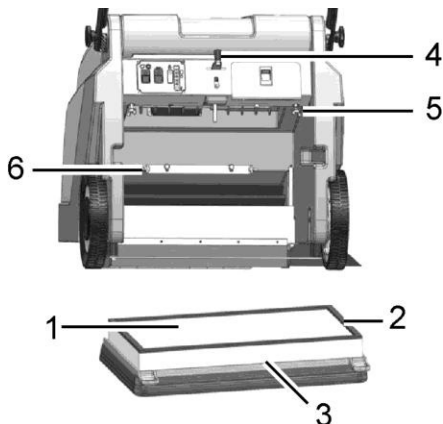
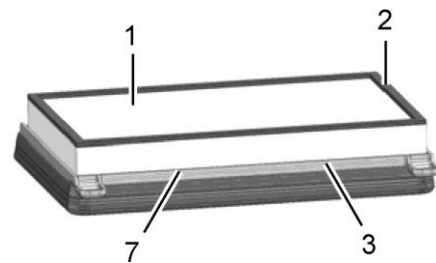

Fig. 12
Fig. 13
Clean the filter (Fig. 12/1) in the dust vacuum as necessary using the shaking device (Fig. 12/4). In the case of extreme accumulation of dirt, clean the filter as follows:
2. Loosen the wing bolts (Fig. 12/5). Pivot the filter support frame (Fig. 12/ 3) down and remove it.
4. Insert the correct side of filter in the filter support frame. The sealing strip (Fig. 12/2) must point towards the suction turbine!
5. Hook the filter support frame in the holder (Fig. 12/6) and fix in place with the wing bolts.
Check the filter (Fig. 12/1) every 250 operating hours for signs of wear and change it as necessary.
2. Unscrew the wing bolts (Fig. 12/5). Pivot the filter support frame (Fig. 12/3) downward and remove it.
4. Insert the correct side of the new filter in the filter support frame. The sealing strip (Fig. 12/2) must point towards the suction turbine!
5. Hook the filter support frame in the holder (Fig. 12/6), if necessary, and fix in place with the wing bolts.
If the machine is mainly used on carpet, you have to install the lint filter (Fig.13/7).
2. Unscrew the wing bolts (Fig.12/5). Pivot the filter support frame (Fig.13/3) down and remove it.
3. Mount the lint filter (Fig.13/7) between filter and the filter support frame
4. Hook the filter support frame in the holder (Fig.12/6), if necessary, and fix in place with the wing bolts.